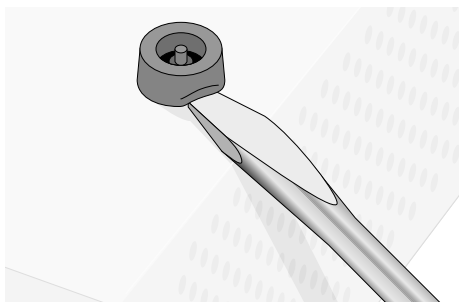

Figure 6 Removing the Feet
3. Using a flat-head screwdriver, remove the snap-on plastic feet from the bottom of the switch, as shown in Figure 6.